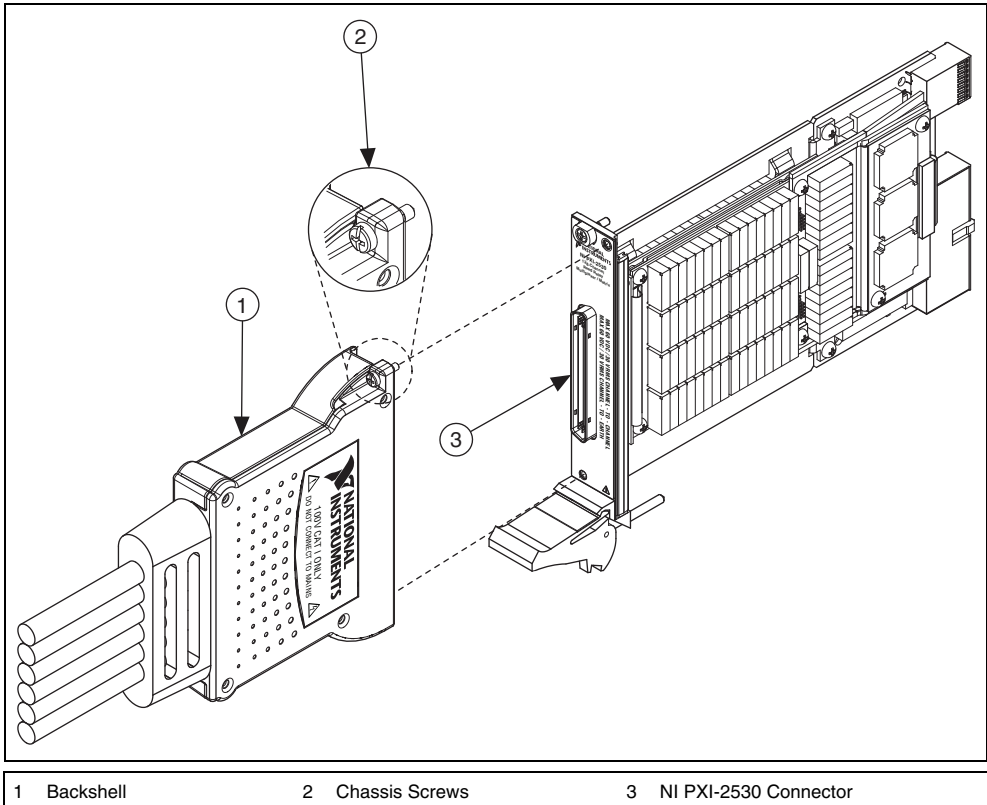

Figure 2. Connecting the Cable to the NI PXI-2530
1. Connect the cable backshell to the NI PXI-2530 connector on the switch module as shown in Figure 2.